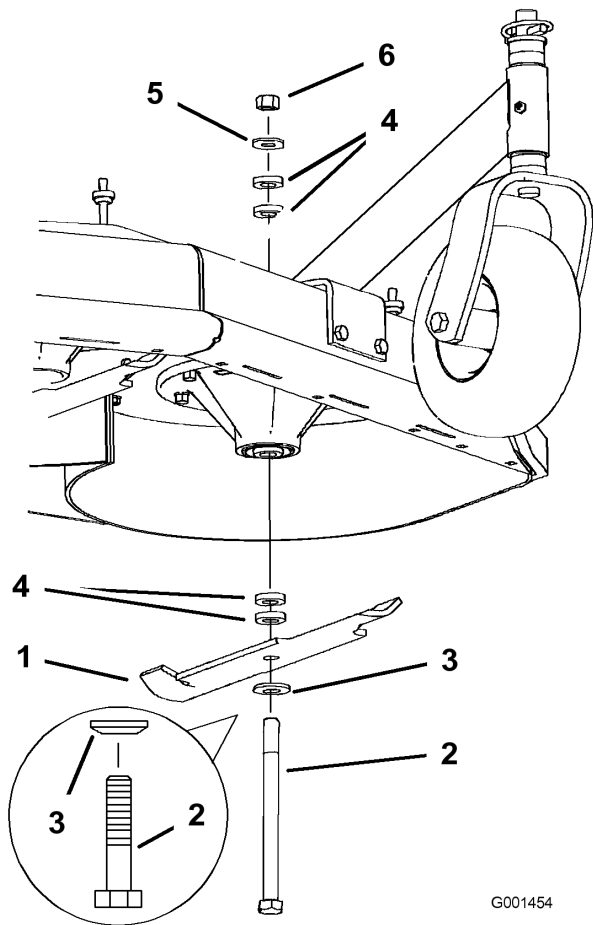

Figure 57
2. Remove the nut, blade bolt, curved washer, blade, spacers, and thin washer from the spindle (Figure 57).
1. Install the bolt, curved washer, and blade. Select the proper number of spacer(s) for the height-of-cut, and slide the bolt into the spindle (Figure 57).
2. Install the remaining spacer(s) and secure them with a thin washer and a nut (Figure 57).